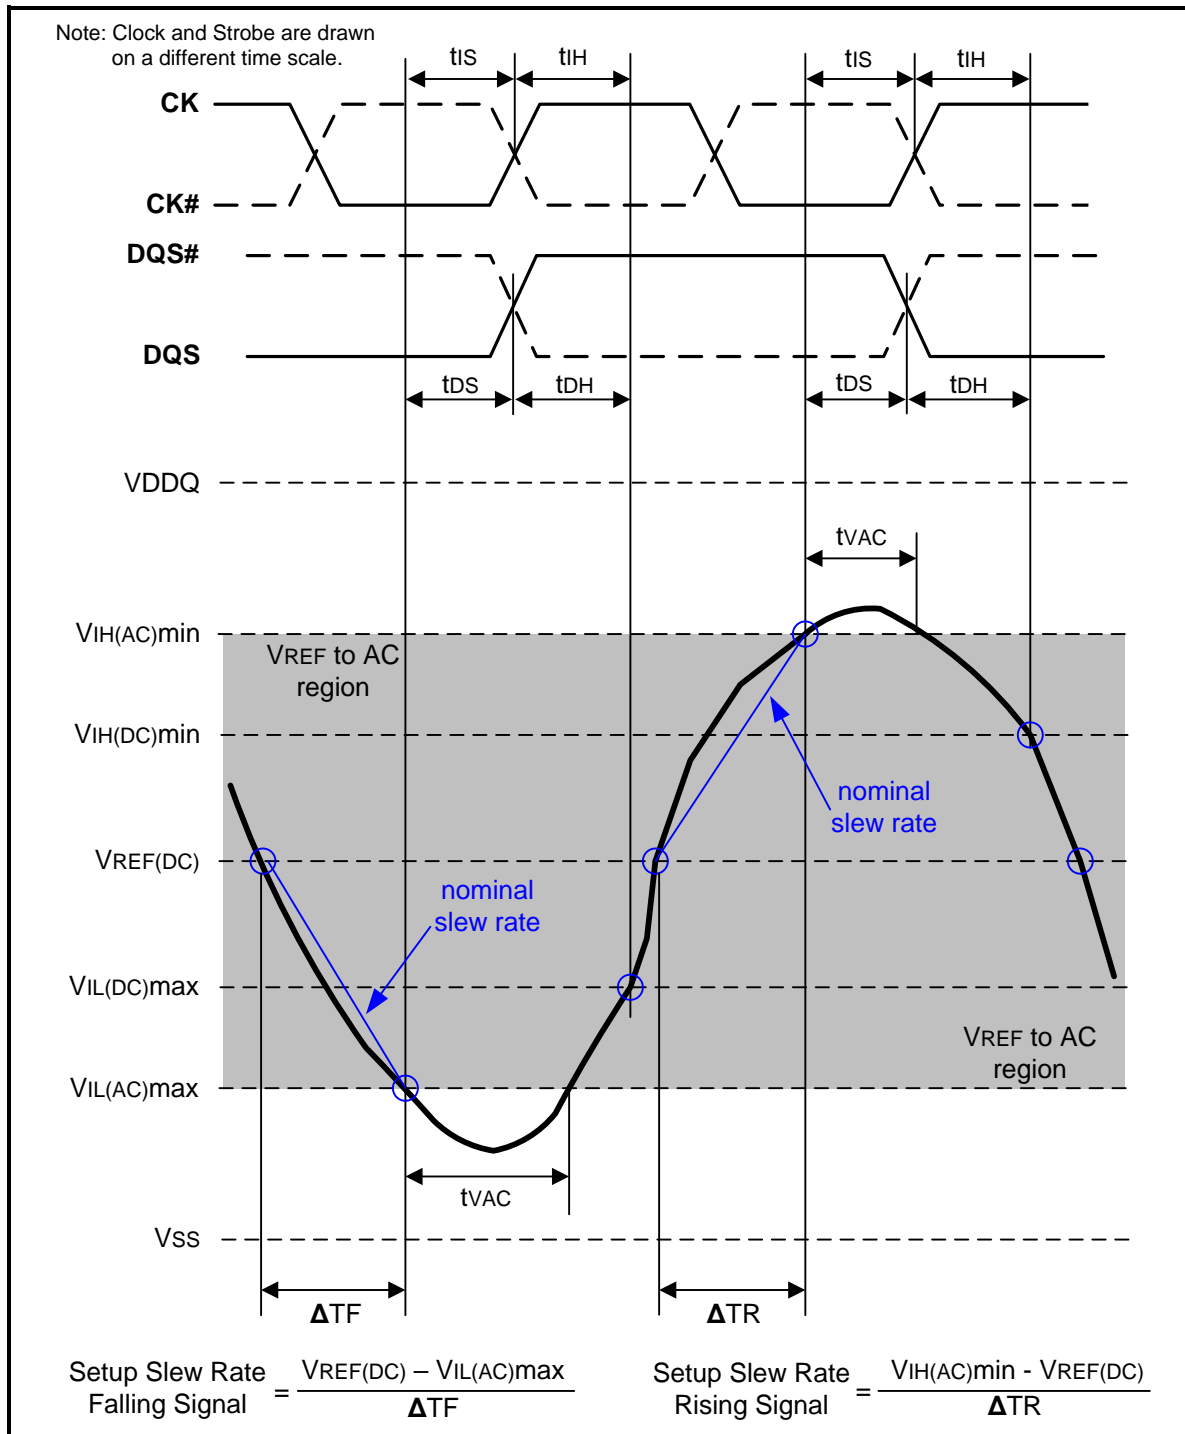
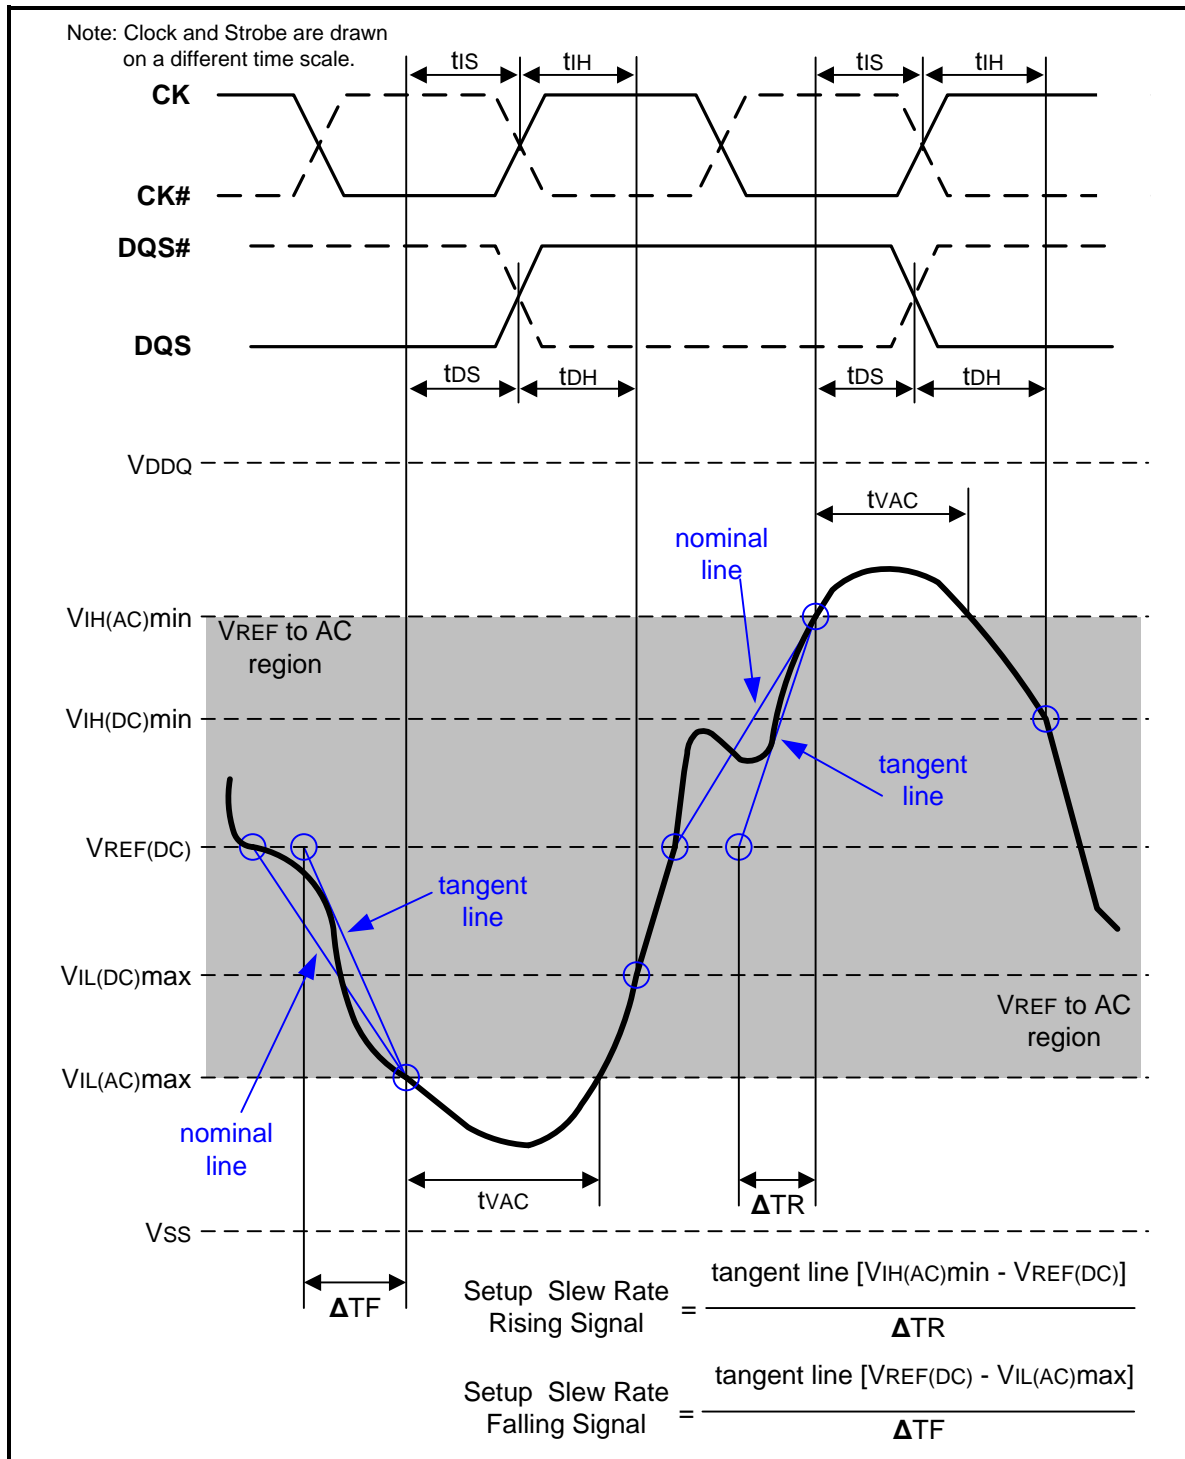

Figure 107 – Illustration of nominal slew rate and tvAC for setup time tDS (for DQ with respect to strobe) and tIS (for ADD/CMD with respect to clock)
Figure 109 – Illustration of tangent line for setup time t_{DS} (for DQ with respect to strobe) and t_{IS} (for ADD/CMD with respect to clock)
Setup (tDS) nominal slew rate for a rising signal is defined as the slew rate between the last crossing of VREF(DC) and the first crossing of VIH(AC)min. Setup (tDS) nominal slew rate for a falling signal is defined as the slew rate between the last crossing of VREF(DC) and the first crossing of VIL(AC)max (see Figure 107). If the actual signal is always earlier than the nominal slew rate line between shaded 'VREF(DC) to AC region', use nominal slew rate for derating value. If the actual signal is later than the nominal slew rate line anywhere between shaded 'VREF(DC) to AC region', the slew rate of a tangent line to the actual signal from the AC level to VREF(DC) level is used for derating value (see Figure 109).